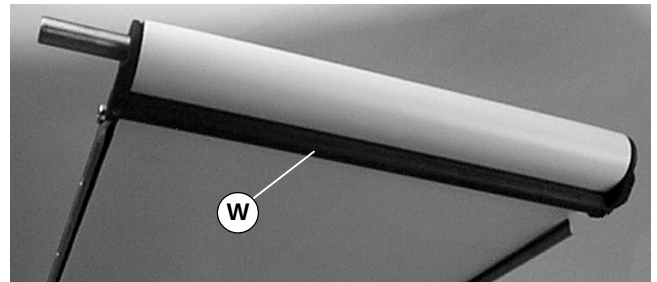
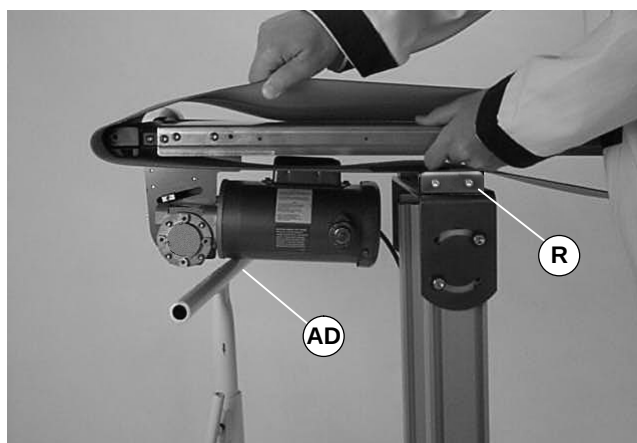

Figure 19
Figure 24
1. For a flat belt conveyor, remove and retain the bottom wiper(s) (W of Figure 19).
The weight of the gearmotor is all on one end of the conveyor which could cause it to tip off the stands when the mounting clamp plates are loosened. Be sure to provide support (AD of Figure 24) underneath the gearmotor while changing the belt.
6. Temporarily support conveyor at gearmotor mounting package (AD of Figure 24).
7. Loosen the mounting clamp plates (R of Figures 24 and 25), on both sides of the conveyor. Raise the conveyor and remove the belt.
2. Remove and retain the bottom wiper(s) (W of Figure 19).
3. On a flat belt conveyor, install bottom wiper(s) (W of Figure 19). Center set screws in frame and tighten to 33 in-lb (3.7 Nm).
2. Loosen the mounting clamp plates (R of Figures 24 and 25), on both sides of the conveyor. Raise the conveyor and replace the belt.
4. Tighten clamp plates screws (R) to 80 in-lb (9 Nm).
5. On a flat belt conveyor, install bottom wiper(s) (W of Figure 19). Center set screws in frame and tighten to 33 in-lb (3.7 Nm).